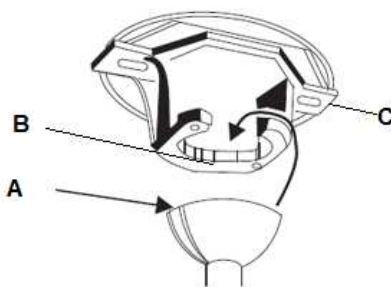

Fig. 5
**HANGING THE FAN (Fig. 5)**
Lift the fan assembly onto the mounting bracket. Ensure the key slot (A) of the hanger ball is positioned on the key pin (B) of the mounting bracket (C) to prevent the fan from rotating when in operation. (Fig.5 (Fig. 5))